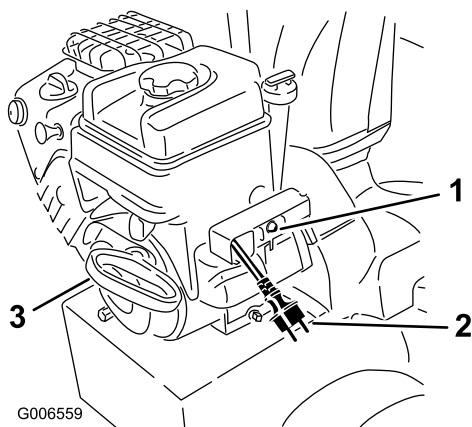

Figure 26
7. Start the machine pulling the recoil starter or pressing the electric-starter button (only 38629) (Figure 26).